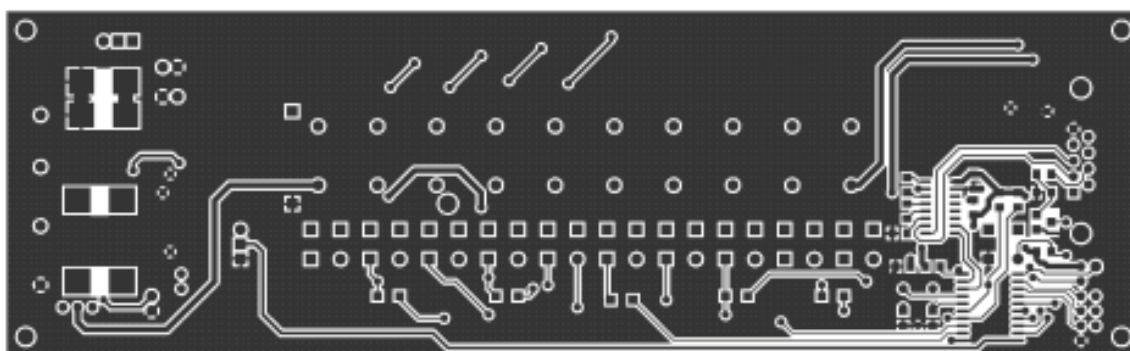

Figure 8. W-510DB1 Board Layout – Bottom Side
- Figure 8. W-510DB1 Board Layout – Bottom Side